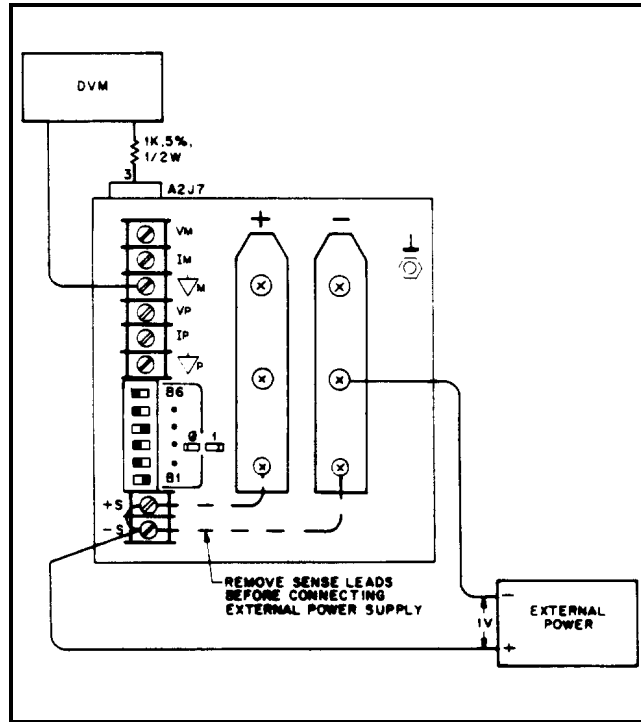

Figure 2-1. Common Mode Setup
- Remove both local sensing straps from rear-panel terminal block, and connect a 1-volt external power supply with its + lead to - S and its--lead to - Out. See Figure 2-1.
- a. Attach the DVM from  $\nabla$  M on the rear panel to A2J7 pin 3 (V-MON buffered). See DVM connection in Figure 2-1.